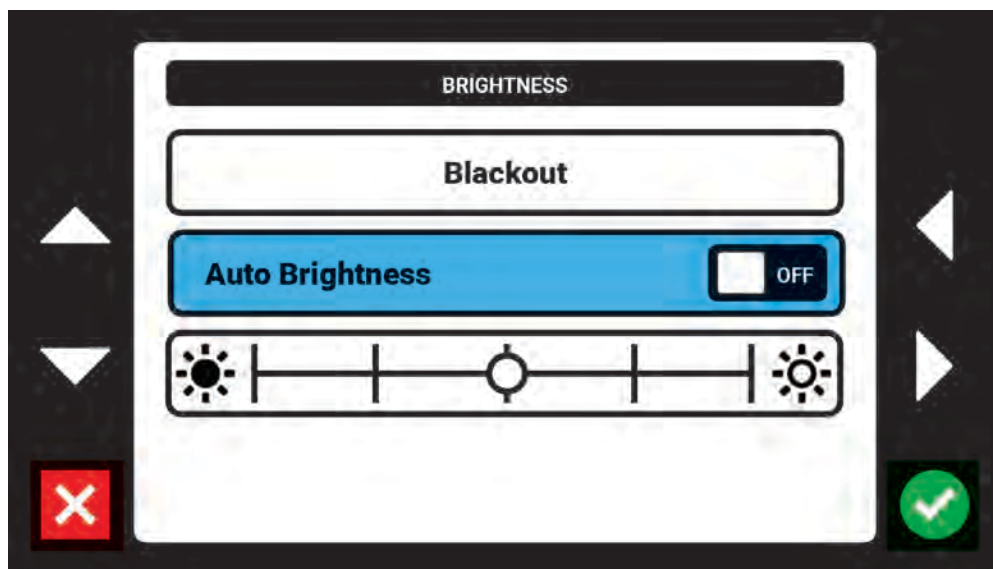

Figure 5-16 Brightness Screen
1. Go to the Settings Screen (Section 5.7.1). Scroll through the setting options and select "Screen Brightness". Below is the Brightness Screen (Figure 5-16).